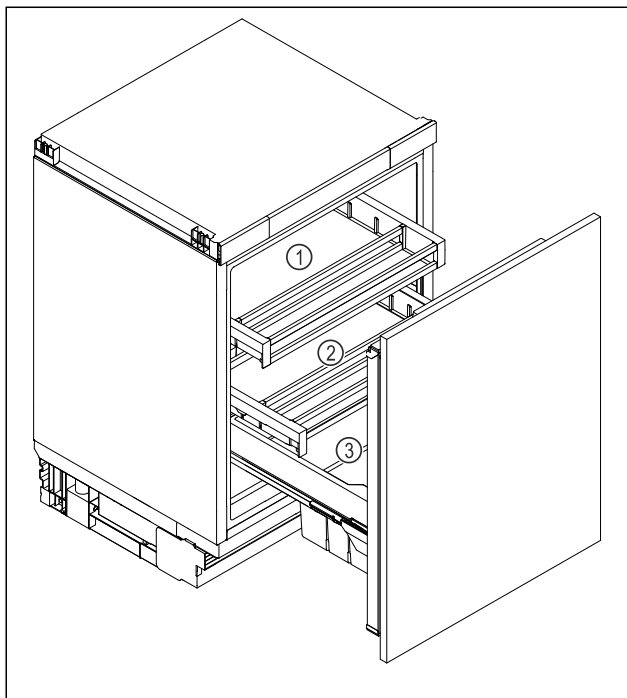

Fig. 6
- Top drawer Fig. 6 (1): Store butter, cheese, tinned food and tubes.
- Bottom drawer Fig. 6 (2): Store particularly perishable foods such as ready meals, fish, meat and sausage products.
- Fruit and vegetable box Fig. 6 (3): Store packaged fruit and vegetables.
- Drinks compartment Fig. 6 (3): Store individual bottles.